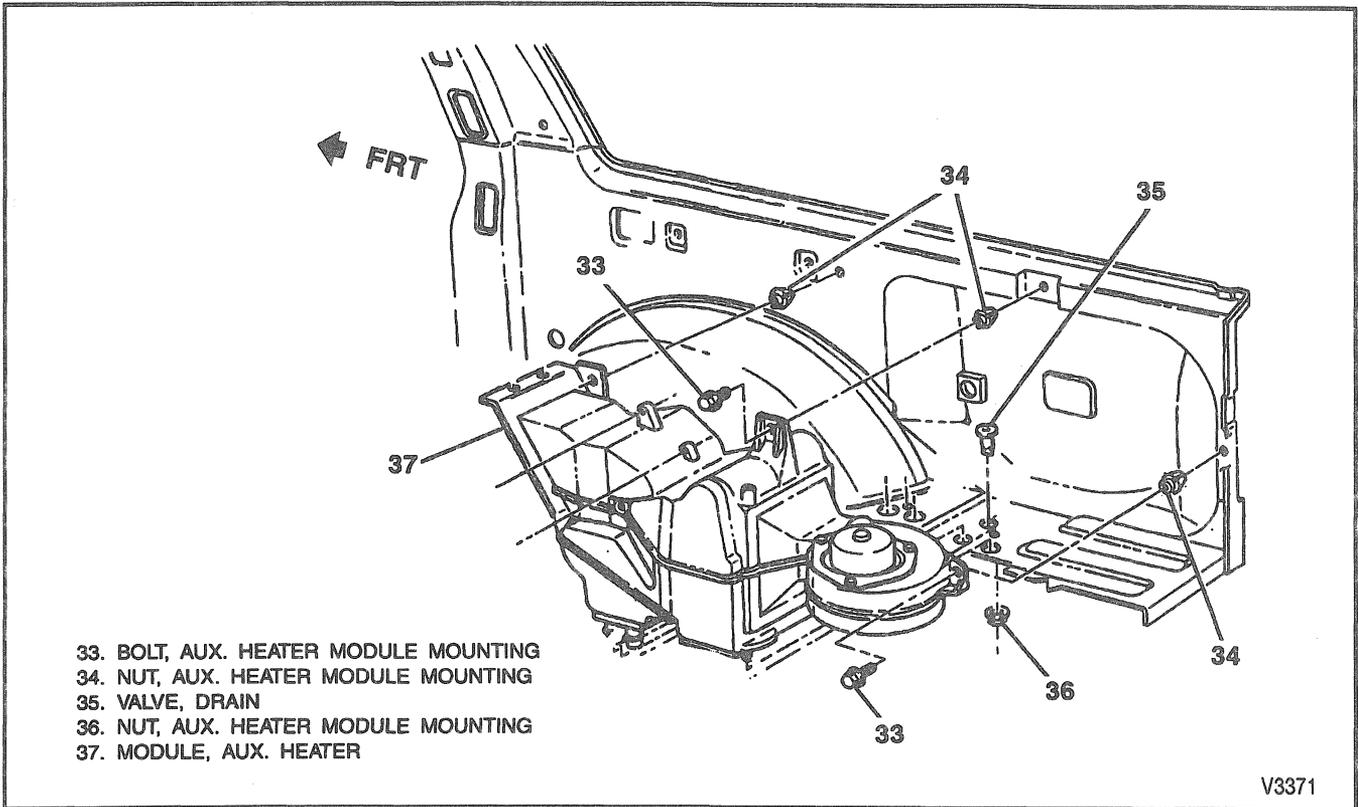

Figure 25—Auxiliary Heater Module
### Remove or Disconnect (Figure 25)
**Install or Connect (Figure 25)**